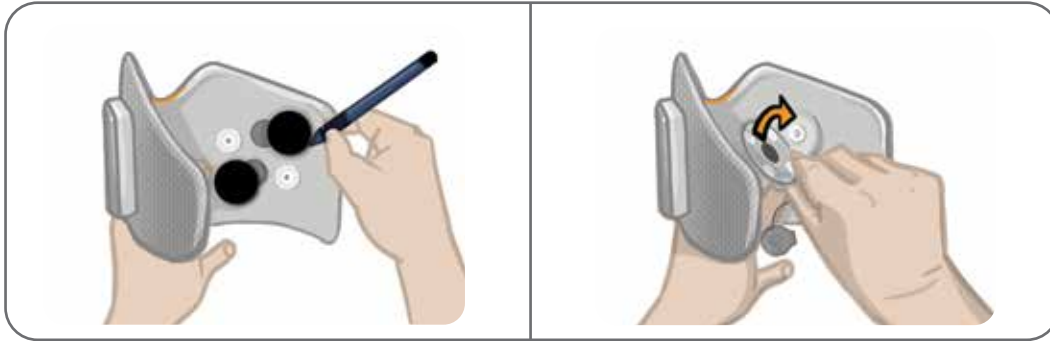

Figure 11-8: Mark Position of Electrode Base (Left)
1. Remove the wire concealers and mark the position of the used electrode bases on the cuff liner with a permanent marker. See Figure 11-8.
2. Disconnect the electrode base snaps from the plug holes. See Figure 11-8.